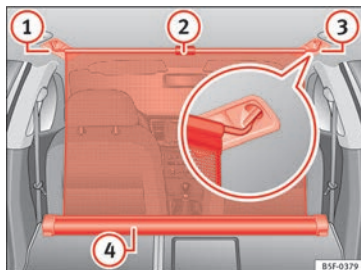

Fig. 127 In the luggage compartment: net partition hooked into the rear seat backrests.
- Pull up handle » Fig. 127 ② to remove the net from the casing » Fig. 127 ④.
- Hook in the net partition on the right side » Fig. 127 ③ (magnified image).
- Hook in the net partition in the left side housing » Fig. 127 ① pulling the rod.
The net partition is properly assembled when the T-shaped ends are firmly secured in the corresponding housings » Fig. 127 ③ and ①.
- Roll up the net into the casing » Fig. 127 ④ lowering it with your hand.